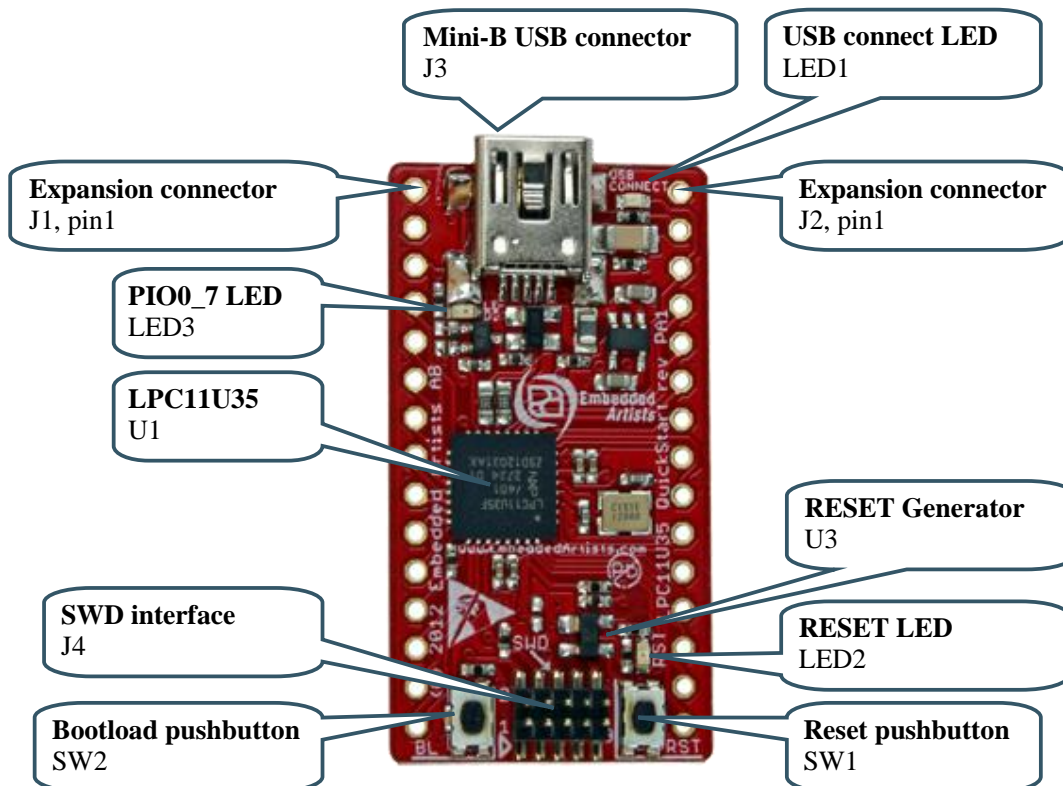

Figure 2 – Main Components on LPC11U35 QuickStart Board
There are two expansion connectors, J1 and J2. They both have 15 positions and are placed at the board edges. See *Figure 2* on page 13 for details about J1 and J2 placement on the board. All programmable pins of the LPC11U35 are available on the expansion connectors; see the table below for details.
Figure 2 below illustrates where the main components in the design can be found on the board.
1. Press both the bootload push-button (SW2) and the reset push-button (SW1). See *Figure 2* on page 13 for details about where to find the two push-buttons.